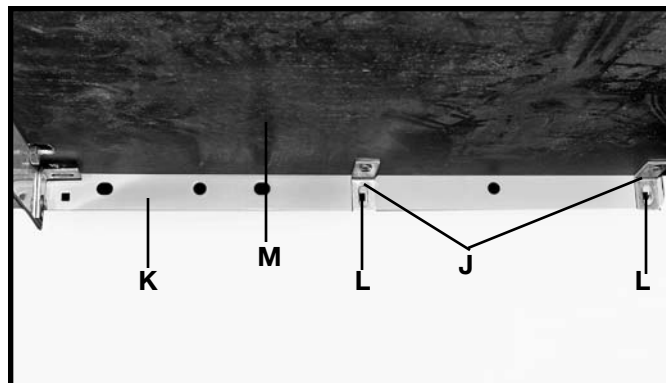

Fig. 15
11. Assemble the two brackets (J) to the rear table support (K) using the two 1/4-20x3/4" carriage bolts, nuts and washers (L), as shown in Fig. 15. **NOTE:** The long leg of the brackets (J) should be against the bottom of the table (M) as shown.